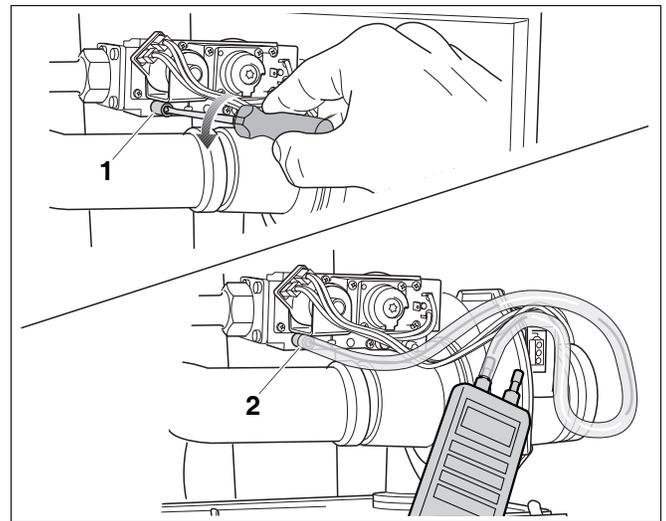

Fig. 57 Measuring the gas supply pressure
- Open the screw plug on the testing nipple for the gas inlet pressure by 2 turns (fig. 57, pos. 1).
- Connect the pressure gauge connection tube to the positive port of the testing nipple (fig. 57, pos. 2).